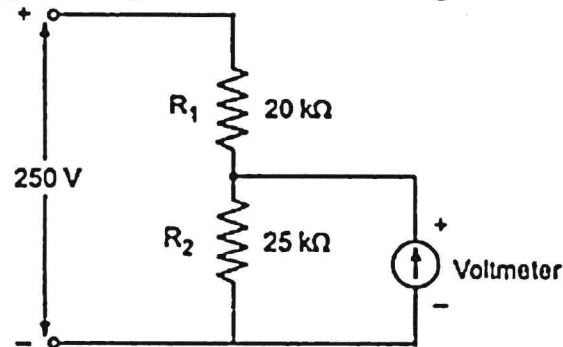

Fig. 4
- (c) A series circuit of Fig. 4 is connected to a 250V dc source. If R_2 is measured by voltmeters A and B having sensitivities of $500\Omega/V$ and $10k\Omega/V$ respectively. If both meters are used on the 150V range, determine the percentage error for each voltage measurement. [7mks]